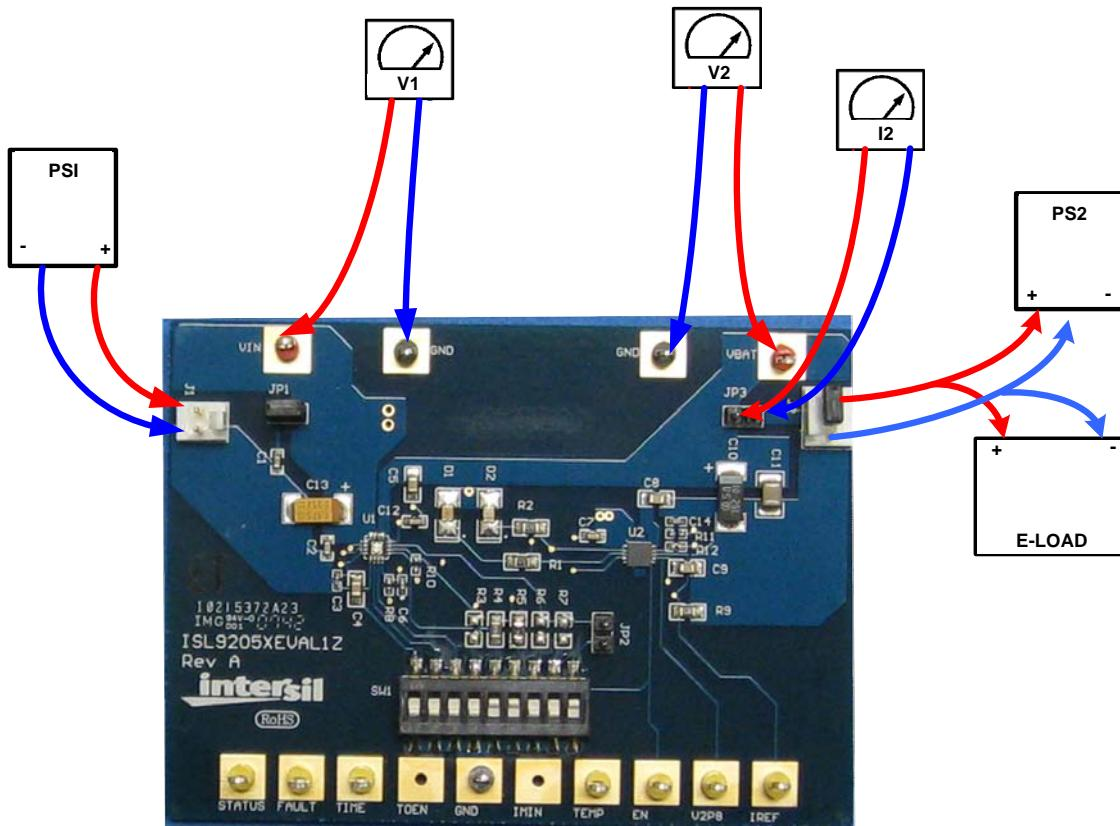

FIGURE 1. CONNECTION OF INSTRUMENTS
Quick Setup Guide (Refer to Figure 1)
- Step 2: Insert a jumper shunt between pins 2 and 3 of J2, as shown in Figure 1
- Step 3: Connect a 3.7V supply PS2 to J2 as shown in Figure 1, with the current limit set at 1.2A
- Step 5: Connect amp-meter I2 as shown in Figure 1